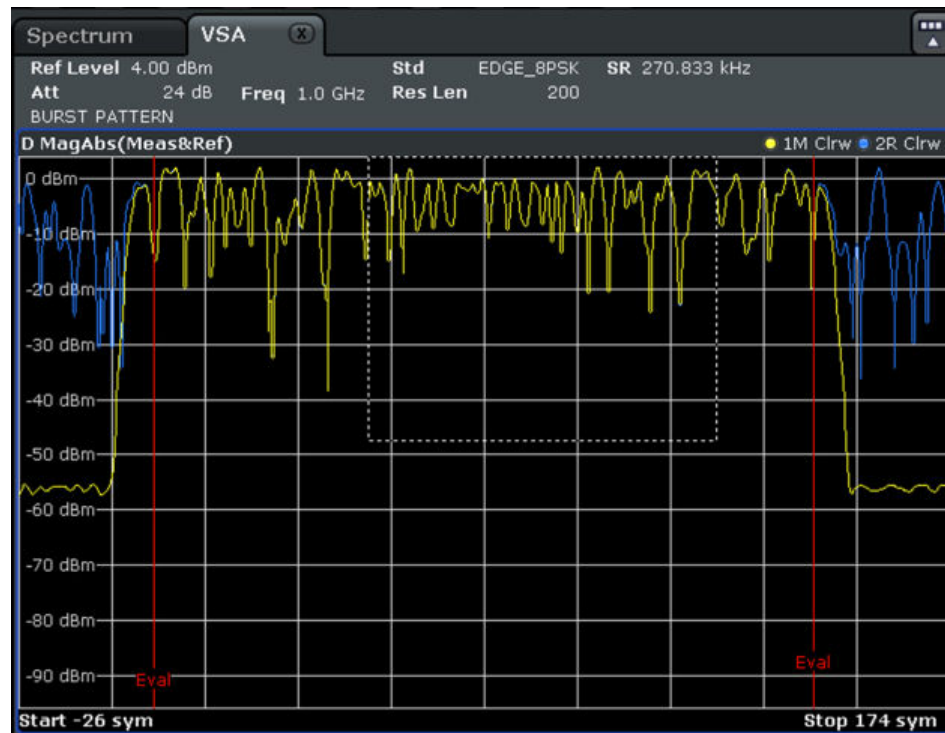

Fig. 9-13: Zooming
4. Select "Clear Write" as the "Trace Mode" and "Evaluation: Ref". This adds a second trace to your result display. This trace is the ideal reference signal that can now be compared to the measurement signal (see figure 9-13).
- To view the traces in more detail, enlarge the window using the "Split/Maximize" key () , and zoom into the display using the  icon in the toolbar (see the dotted rectangle in figure 9-13).